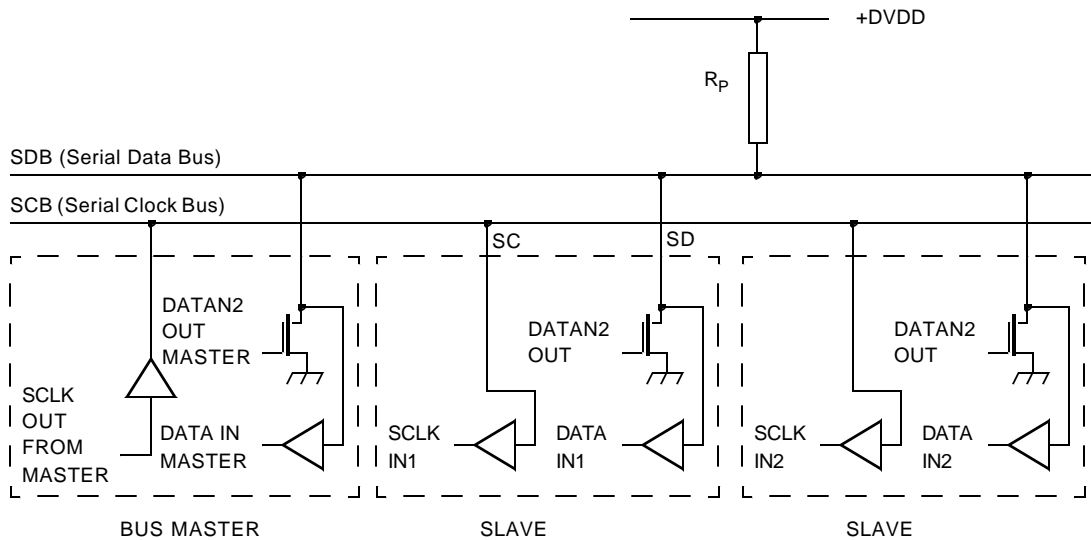

Figure 17: Connection of Devices to the Bus
The CH7007 contains a standard I²C control port, through which the control registers can be written and read. This port is comprised of a two-wire serial interface, pins SD (bidirectional) and SC, which can be connected directly to the SDB and SCB buses as shown in **Figure17**.
The Serial Clock line (SC) is input only and is driven by the output buffer of the master device (also shown in **Figure17**). The CH7007 acts as a slave, and generation of clock signals on the bus is always the responsibility of the master device. When the bus is free, both lines are HIGH. The output stages of devices connected to the bus must have an open-drain or open-collector to perform the wired-AND function. Data on the bus can be transferred up to 400 kbit/s.
The electrical specifications of the bus devices’ inputs and outputs and the characteristics of the bus lines connected to them are shown in **Figure17**. A pull-up resistor (R_P) must be connected to a $3.3V \pm 10\%$ supply. The CH7007 is a device with input levels related to DVDD.